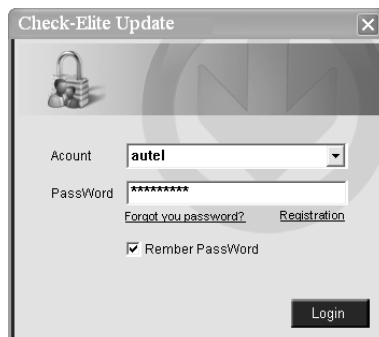

Figure 6.3
4. Run the update option in **Check-Elite PC Suit** software. Wait for the Log In window to pop up. (Figure 6.3)